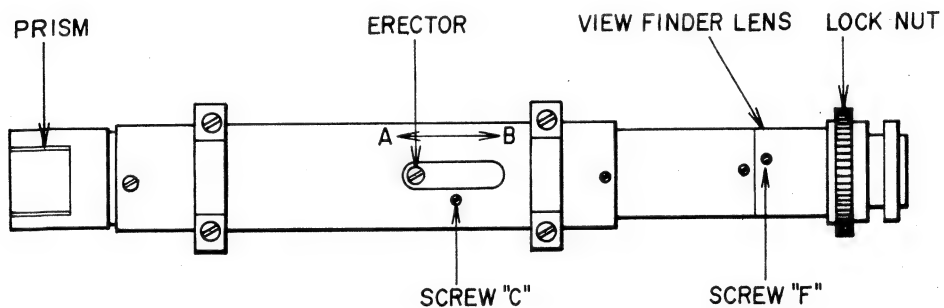

Fig. 2-11 View Finder
3. Loosen Screw "C" (shown in (Fig. 2-11) and adjust erector so that the vertical stripe on resolution chart is clearly visible. At this time the monitor picture must be focused. Move erector position between points A and B (Fig. 2-11) until two perfectly focused points are found and set to focused position nearest to point A.
- a) If picture is too high or too low, loosen screws on both sides of prism (Fig. 2-11) and change position of prism angle until picture is properly positioned.
- b) If picture is too far to either side, loosen the "F" screws (Fig. 2-11) and take off view finder lens. With Screw "G", move Finder Mask to right and left until monitor picture is properly positioned.